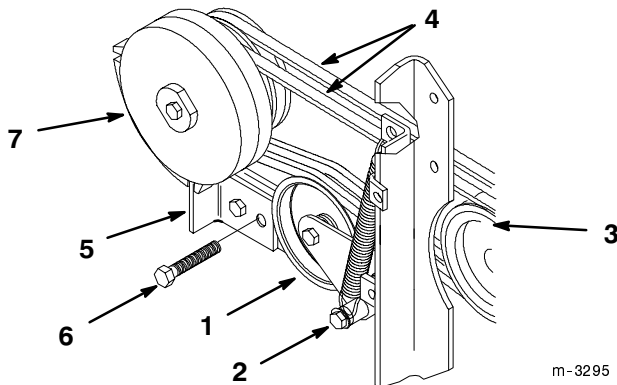

Figure 82
1. Hold spring loaded idler against belts and pull spring down to remove from lower bolt mount (Fig. 82).
2. Lower idler to relax tension on PTO belts and remove belts from gear box pulley (Fig. 82).
3. Remove clutch stop mounting bolts and unplug clutch wire harness (Fig. 82). Remove belts over clutch.
5. Hold spring loaded idler against belts and pull spring down to install on lower bolt mount (Fig. 82).
6. Install clutch stop (Fig. 82). Tighten mounting bolts securely.